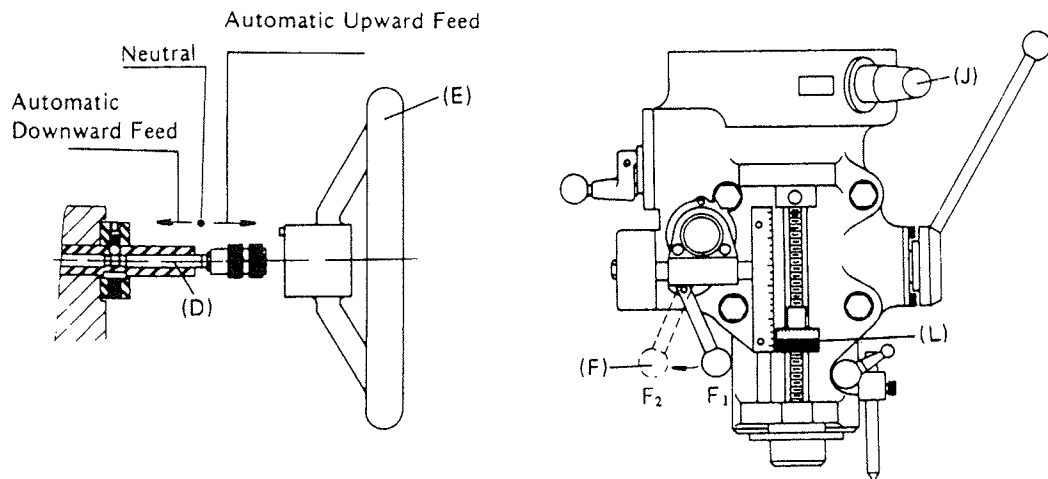

Figure 11
Note: In manual feed, the feed control handle "F" (Fig. 11) must be in the "F1" position.
To use the manual micro-feed, the power-feed transmission lever (J) (Fig. 11), must be placed at the "OUT" position and the feed reverse knob (D), (Fig. 11) must be in the neutral position. To engage the overload clutch, lever "F", (Fig. 11) must be moved to the "F2" (Fig.11). You can now turn handwheel "E" clockwise to lower the spindle, counter clockwise to raise it.
- e. The quill will move down when Pressing knob "D" (Fig. 11) in, and pulling it out, the quill will go up. (The middle is neutral).